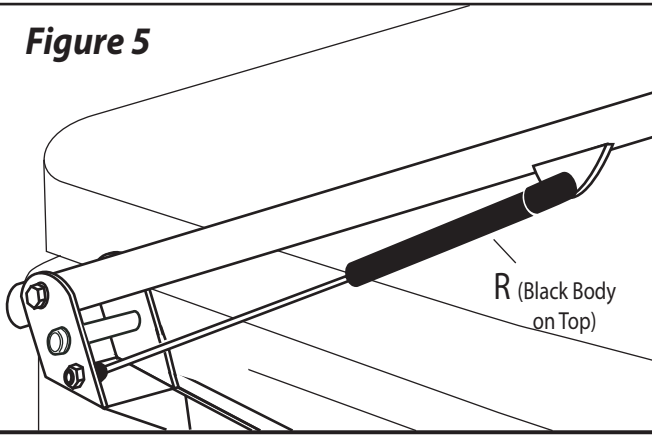

Figure 6
Remove the (2) green "Attention Installer" stickers on the underside of the Smartop. Using the #10 self-tapping screws, fasten the support arms to the internal tube in the center of the cover through the holes on the underside of the the cover (see Fig. 6). Cover the (3) holes on either side of the Smartop using the supplied black foam oval covers. **Note: Attach the black foam oval covers in the same position the green "Attention Installer" stickers were originally installed on the Smartop.**